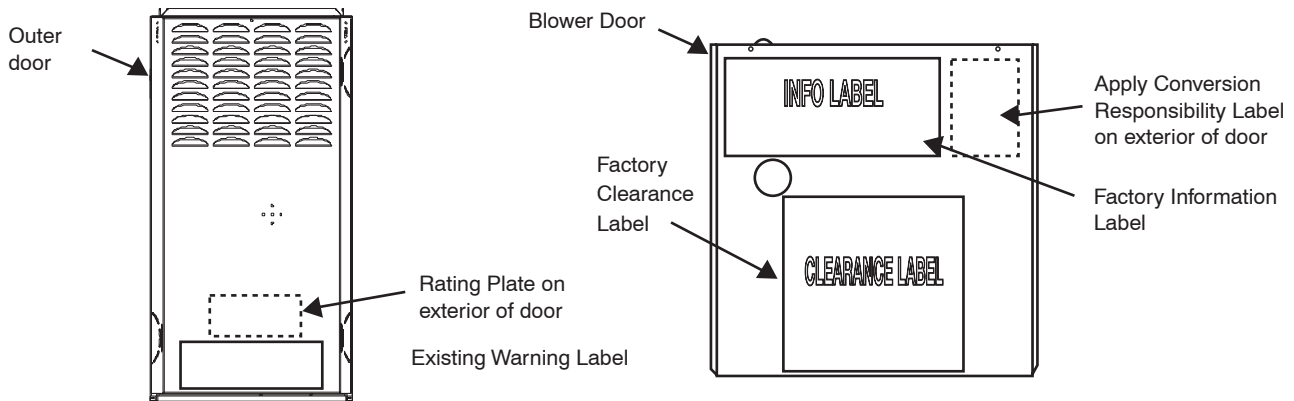

Fig. 31 – Label Application
NOTE: See Fig. 31 for label locations and Table 1 for part numbers.
1. Fill in Conversion Responsibility Label (334409-205) and apply inside furnace as shown (Fig. 31). Date, name, and address of organization making this conversion are required.